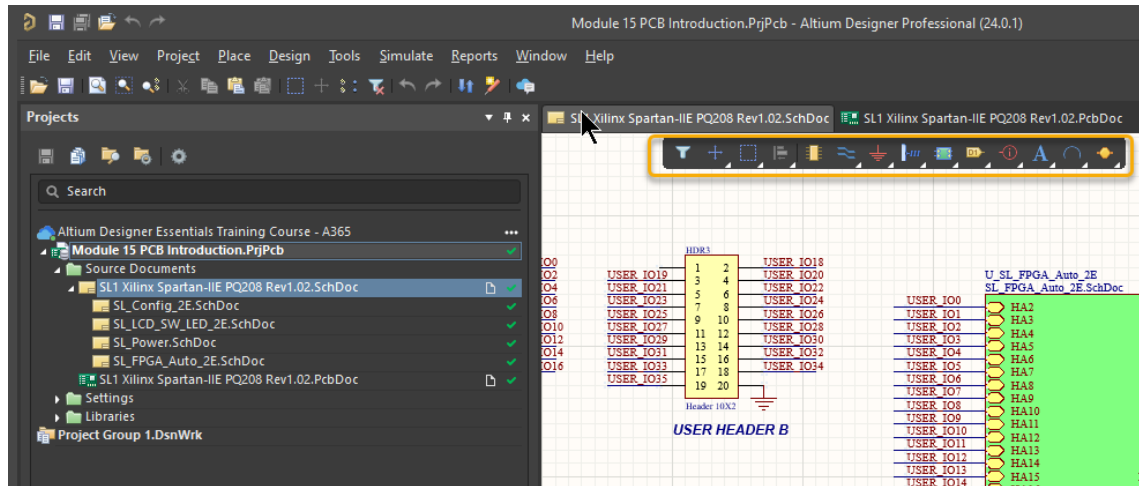
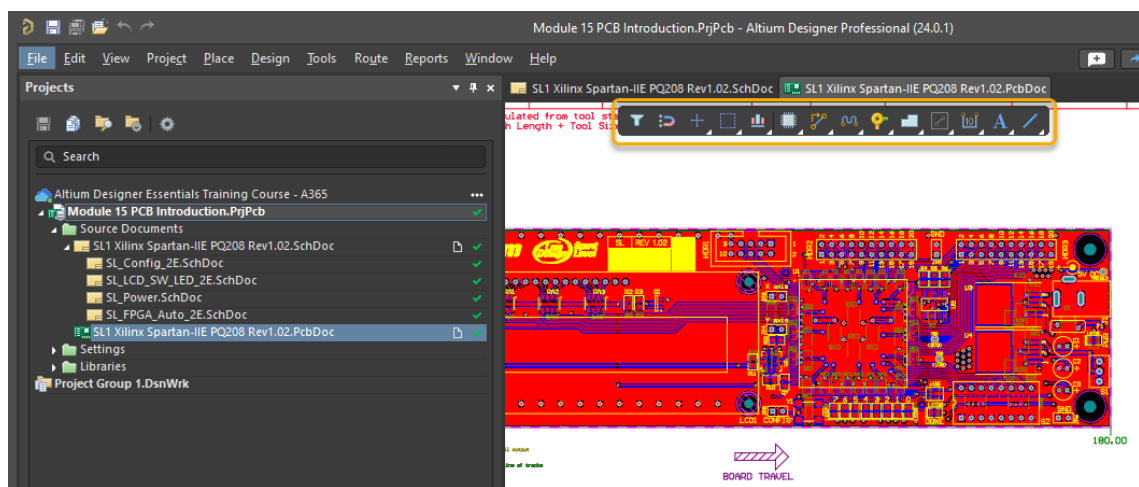

Figure 1. Schematic Design Environment
Figure 2. PCB Design Environment
10. A change from Sch to PCB or vice-versa is a change from one document type to another, this change of focus also changes the working environment and the menus available, as seen in Figure 1 and Figure 2.